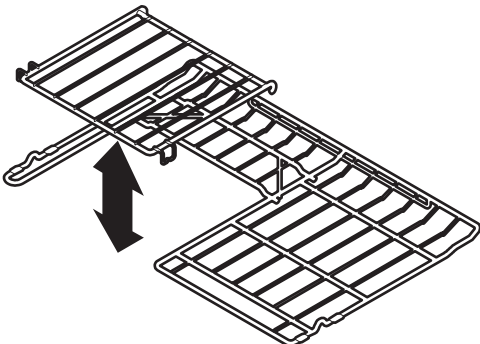

Figure 4 - Models B & C only
5. While holding the connector arm in place, twist the connector arm so the ends of the connector arm point upwards (See Figures 4 & 5). The connector arm should now be locked into position.